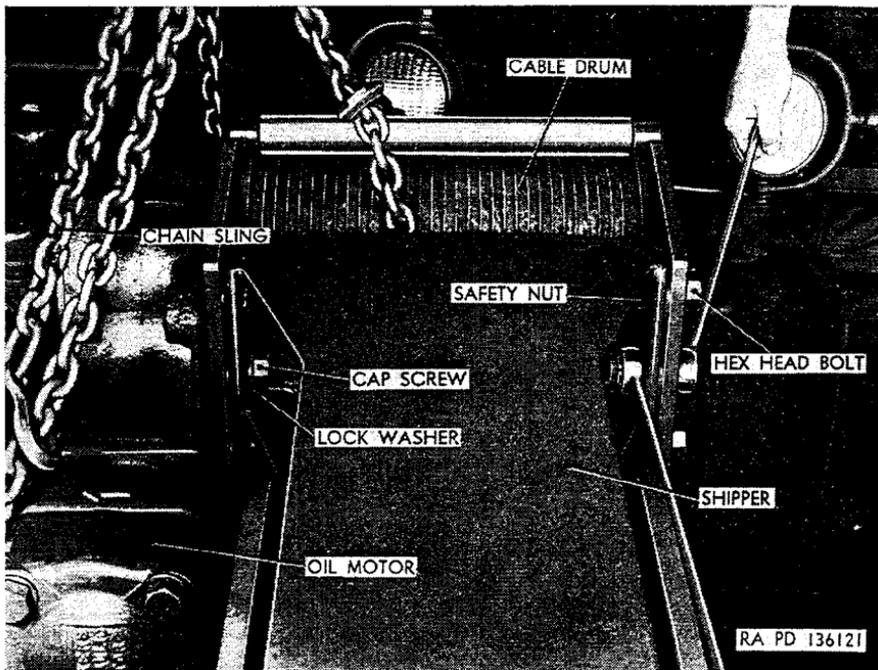

Figure 307. Removing boom hoist hydraulic oil motor and cable drum M62 and M246.
- (1) Remove hoist cable from drum (*c* below).
- (2) Attach a chain sling (fig. 307) to oil motor and cable drum assembly, attach overhead hoisting equipment to sling, and just support weight of assembly with hoist.
- (4) Remove three cap screws (fig. 307) and lockwashers securing right end of cable drums to shipper.
- (5) Remove three safety nuts (fig. 307) and hex-head bolts securing left end of cable drum to shipper, lift oil motor and drum assembly from shipper, and remove from vehicle.
- (1) Using overhead hoisting equipment, lift boom hoist hydraulic oil motor and cable drum (fig. 307) into position at rear of shipper.
- (2) Aline mounting holes in left end of cable drum with holes in shipper (fig. 307), and insert three hex-head bolts through holes. Install three safety nuts on bolts and tighten.
- (3) Install three cap screws (fig. 307) with lockwashers in holes in shipper and right end of cable drum, and tighten screws.
- (4) Remove overhead hoisting equipment and chain sling from oil motor and cable drum.